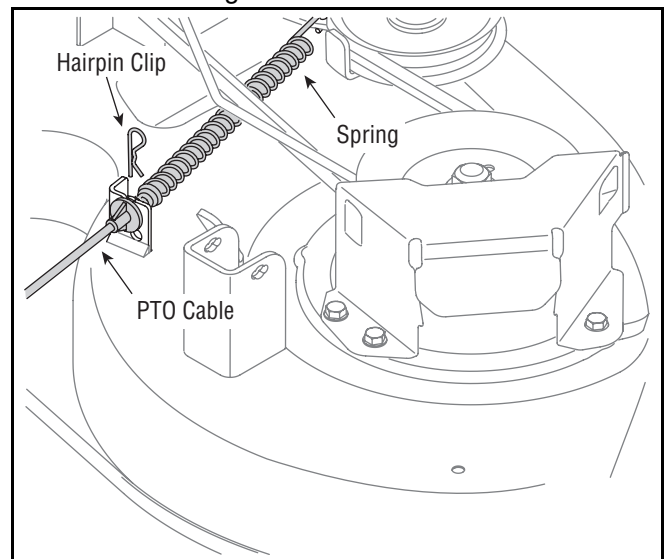

Figure 20
- Remove the hairpin clip that secures the PTO cable to the rear of the cutting deck. See Figure 20. Remove the PTO cable and accompanying spring from the cutting deck.